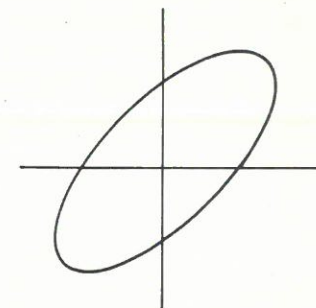

Fig 2.3
2. Using an X-Y display a 45° angle is shown as in fig 2.3. It does not matter if the signal is leading or lagging. The difference between the leading and lagging display being in the direction in which the spot traces out the ellipse. Above 10Hz this is difficult to see.